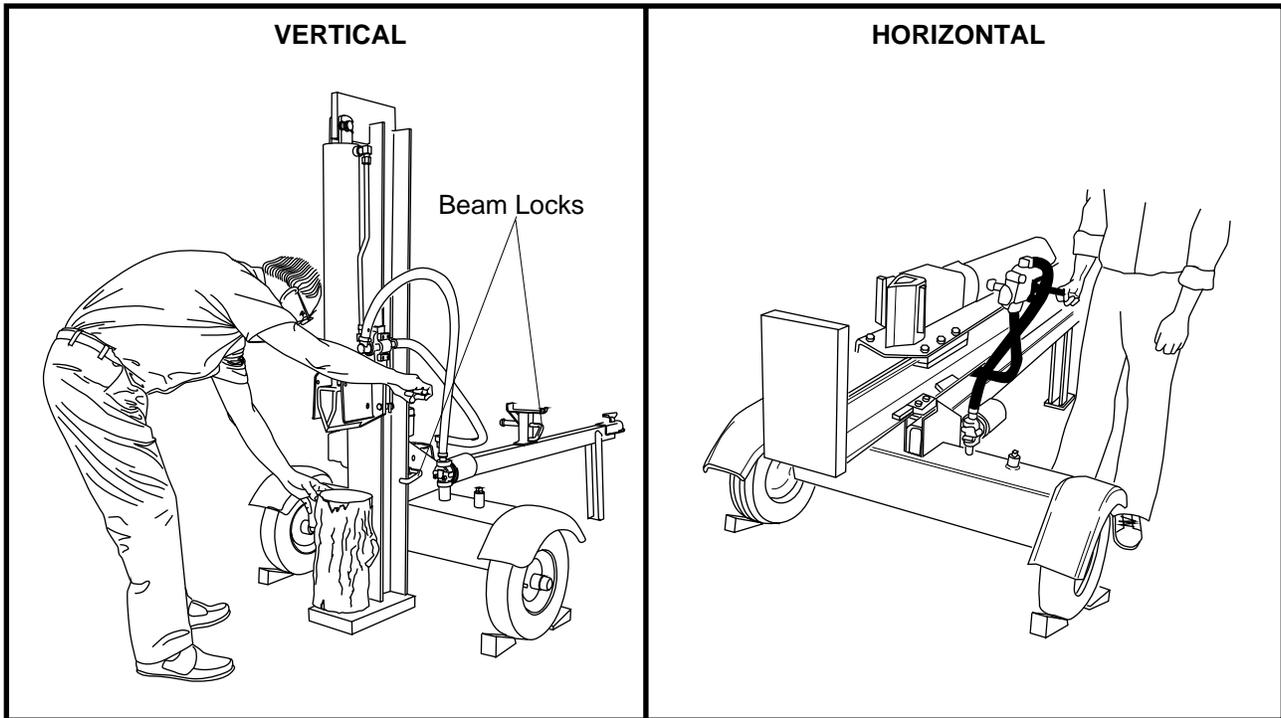

Figure 5 *
There are two beam locks one for each operating position. See Figure 5 for the locations.
* Figure 5 shows optional fenders not all unit are equipped with fenders.
- Stand in front of the log splitter. Operate the control handle with your right hand and stabilize the log, if necessary, with your left hand. See Figure 5.
- Stand behind the reservoir tank. Operate the control handle with your right hand and stabilize the log, if necessary, with your left hand. See Figure 5.